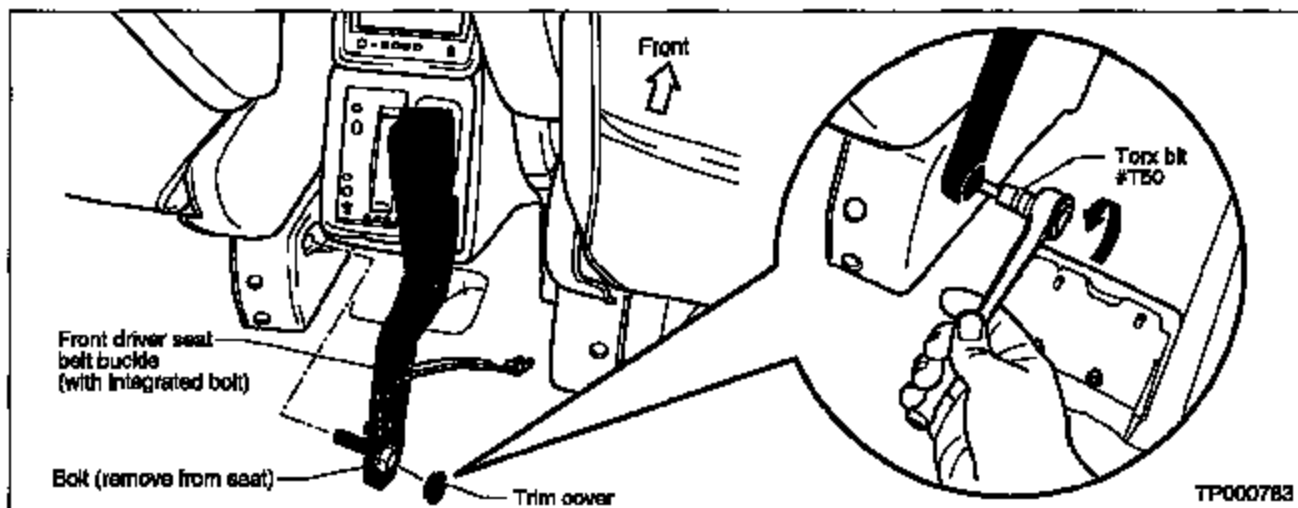

Figure 7
2. Unscrew (using a Torx-bit #T50) and remove the trim cover over the seat belt buckle mounting bolt (see Figure 7).
3. Unscrew the bolt and remove the front driver's seat belt buckle (see Figure 7).
- D. Re-install the trim cover over the seat belt buckle mounting bolt (see Figure 7).